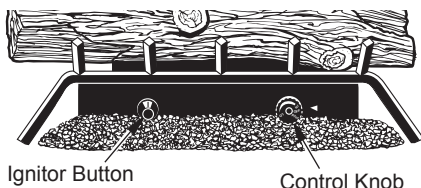

Figure 31 - Control Knob and Ignitor Button Location
- Turn control knob counterclockwise ↺ to the PILOT position. Press in control knob for five (5) seconds (see Figure 31).